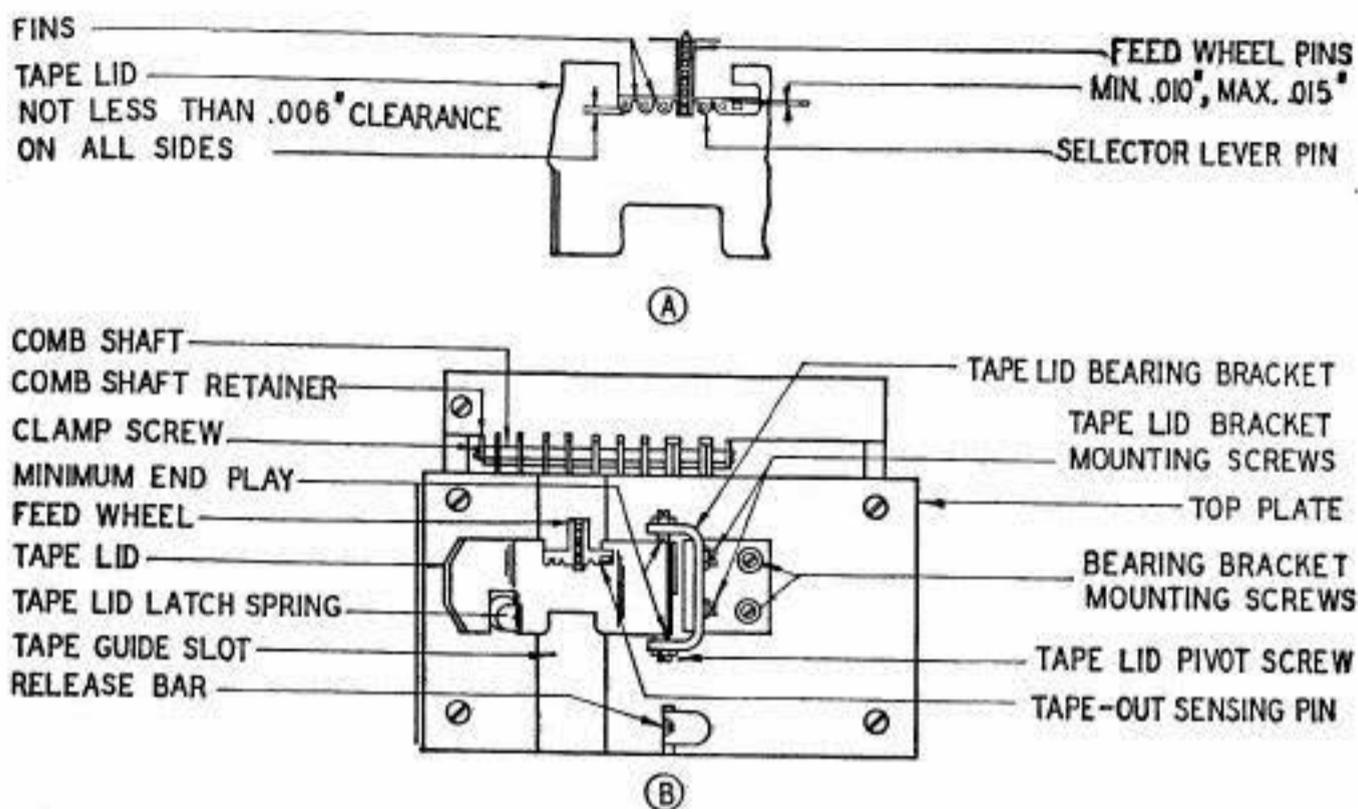

Fig. 4
The comb shaft should be clamped ← by both retainers so that it ← rests at the bottom of the shaft slot. See Fig. 4 for location of parts. **Fig. 4**
3.11 Tape-lid Pivot-screws: The tape-lid should be located centrally with respect to the tape-lid-bearing bracket and should be free to pivot, without binding, with a minimum amount of endplay at the bearings. **Fig. 4(B)**
3.12 Tape Lid—Vertical Adjustment: The tape lid should rest flat along both edges of the tape-guide slot in the top plate. **Fig. 4(B)**
3.13 Tape Lid—Horizontal Adjustment: The feed-wheel pins should line up centrally between the fins of the feed-wheel pin slot in the tape lid. With the selector-lever pins in the upper position, there should be at least .006" clearance, as indicated in Fig. 4(A), between the selector-lever pins (tape-out sensing pin included) and any part of the tape lid. The selector-
lever pins should be inside their slots. On units other than those equipped with TP135561 tape lids, the pins should be Min .010", Max .015", as indicated in Fig. 4(A), from the end of the tape-lid fins. **Fig. 4(A)**
(a) To adjust, loosen the tape-lid bearing bracket mounting screws and position the tape lid. **Fig. 4(B)**